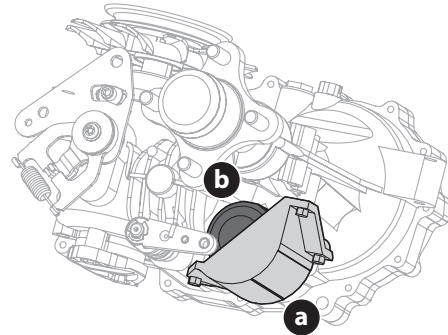

Fig. 26
3. If necessary, perform the following to replace the oil filter (Fig. 26):